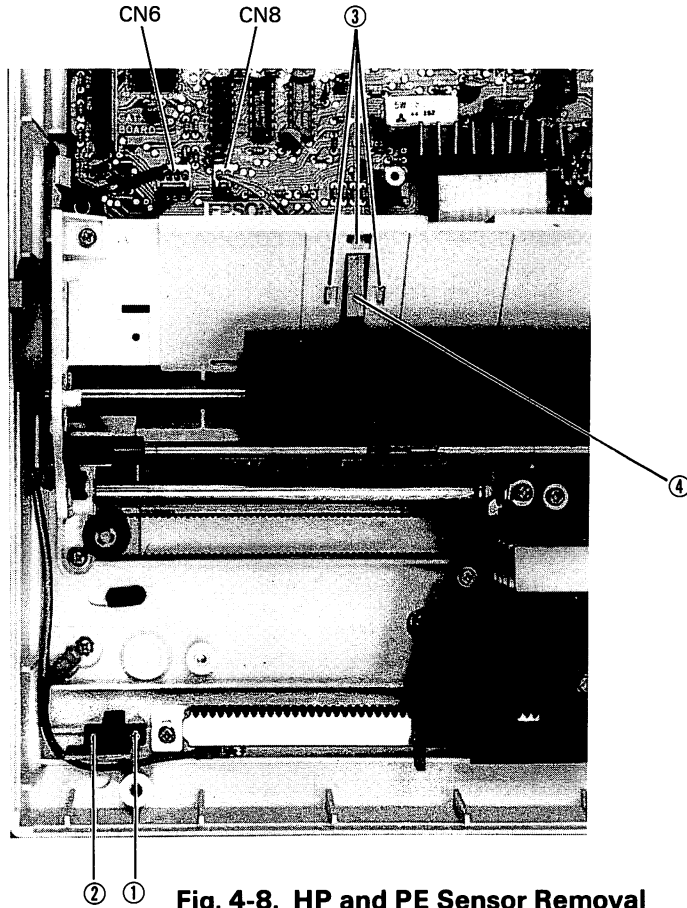

Fig. 4-8. HP and PE Sensor Removal
4.2.8 Home Position Sensor Removal (Fig. 4-8)
4.2.9 Paper End Sensor Removal (Fig. 4-8)